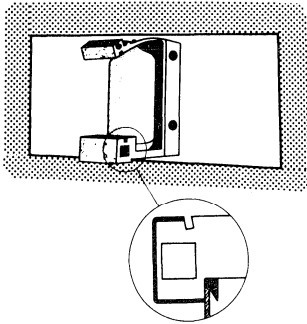

Fig.2a
2. Slide the snap-fit tube holders into position one by one, see Fig.2a and 2b.